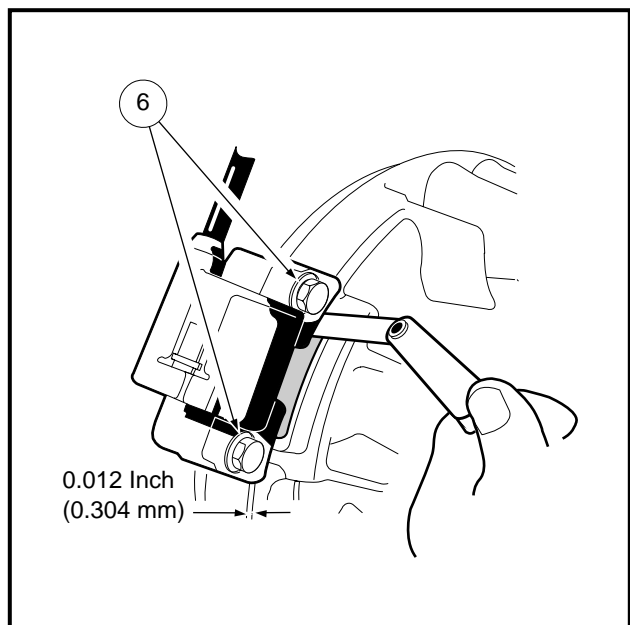

Figure 12-29 Mount Ignition Coil Using Feeler Gauge
4. Remove the grommet (4) from the old spark plug wire. Clean the grommet and place it on the new spark plug wire (5).
8. Install the gasket (1) on the cap (2).
9. Position the ignition coil (7) onto the cast mounting bosses on the engine crankcase and tighten the two mounting bolts (6) to finger tight at this time.
10. Rotate the flywheel (8) until the magnet is positioned directly under the ignition coil. Use a 0.012" (0.304 mm) bronze feeler gauge to set the air gap between the ignition coil and the flywheel magnet. Tighten the two mounting bolts (6) to 30 in-lb (3.4 N·m) (**Figure 12-29, Page 12-26**).